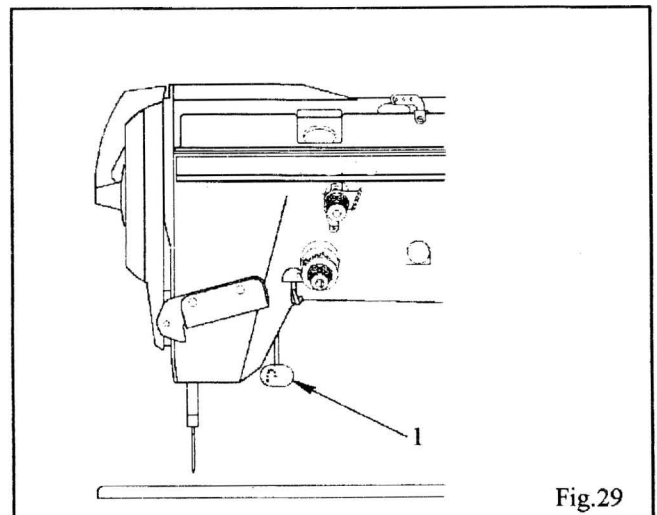

Fig.29
Push back tack switch (1), Fig. 29, for back tacking. The machine will continue to sew in reverse while the back tack switch is pushed.